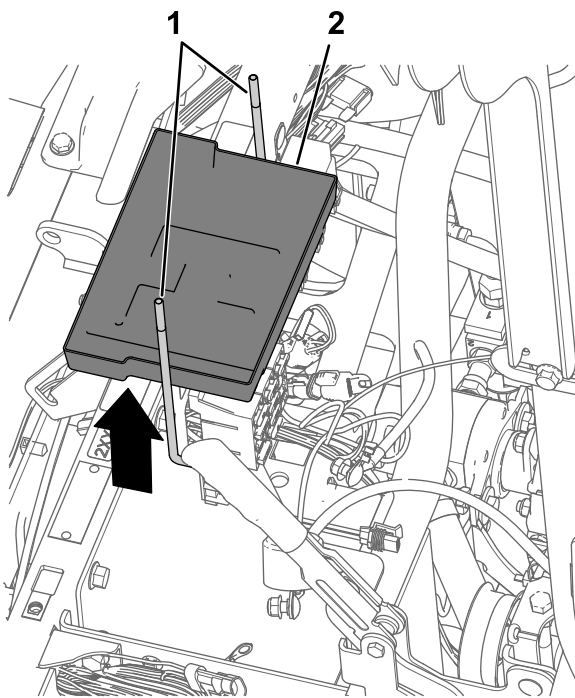

Figure 171
5. Remove the 2 J-bolts and battery tray from the battery bracket (Figure 171).